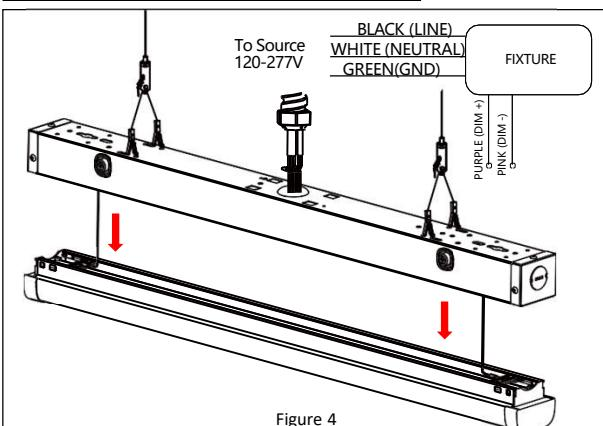

Figure 4
9. Using the supplied wire nuts, make wiring connections as per the wiring diagram in *Figure 4*.